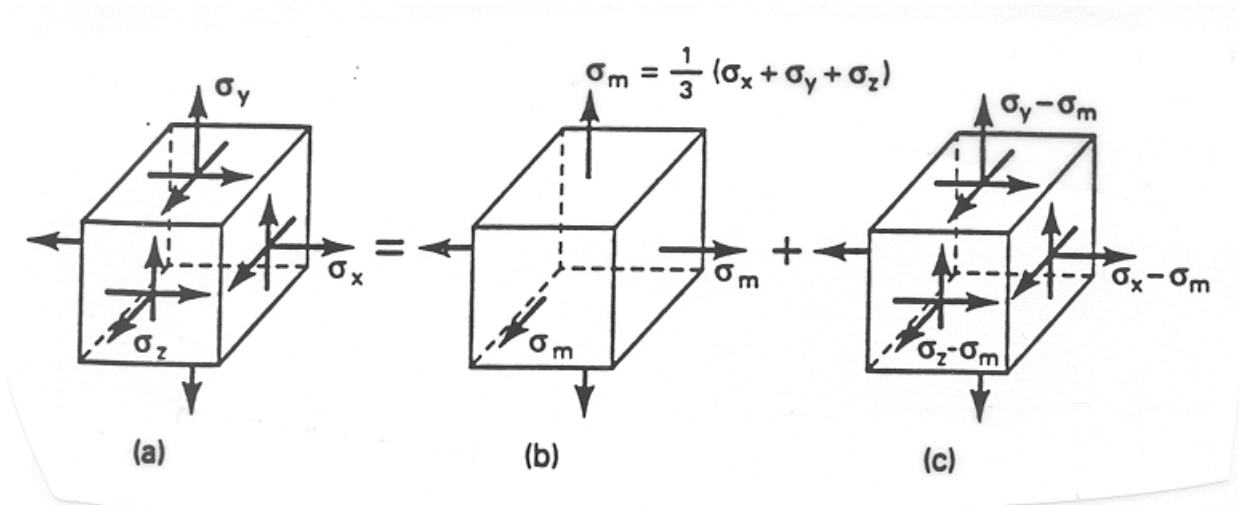

Figure 8: Decomposition of (a) state of stress into (b) dilatational stresses and (c) distortional or deviatoric stresses.
A new perspective on strain energy may be gained by viewing the general state of stress as the superposition of the hydrostatic (dilatational) stresses and the deviatoric (distortional) stresses (see Fig. 8 and lecture 3).
The hydrostatic stress state (Part (b) of Fig. 8) results in volume change without distortion. Associated with  $\sigma_m$  is the dilatational (mean) strain
The deviatoric stress state (Part (c) of Fig. 8) produces distortion without change in volume. The distortional energy per unit volume,  $W_d$ , is attributable to the change of shape of the unit volume while the volume remains constant. To calculate  $W_d$ , use the strain energy equation (17) with all strain components expressed in terms of stresses (via Hooke's law) and subtract the dilatational strain energy given in eq. (20). We finally arrive at the following expression: